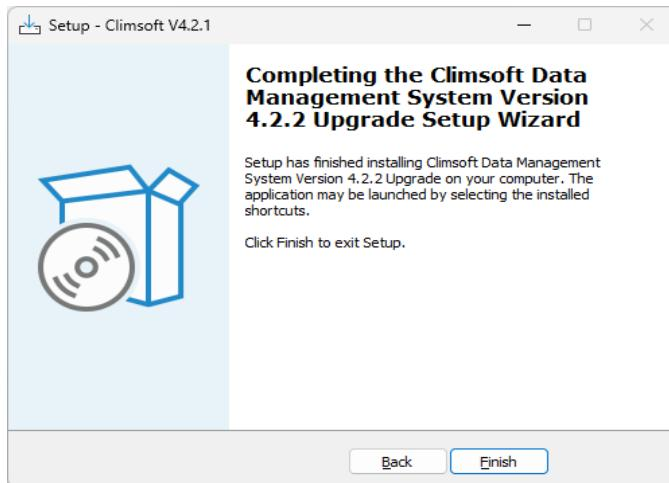

Figure 106: Climsoft version upgrade
- (vi) The final dialog will be as shown in Figure 106: